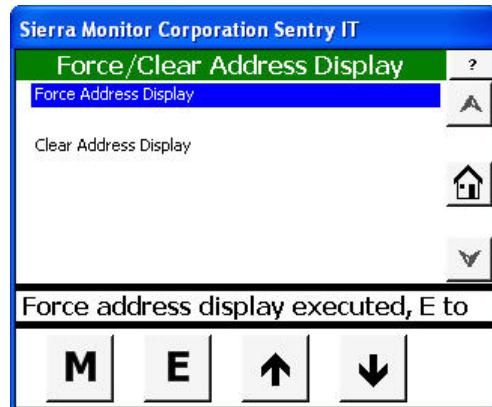

Figure 5-100 Force Address Display
- Enter forced value and touch Keyboard Return key to complete the entry (see Figure 5-100 Force Address Display).